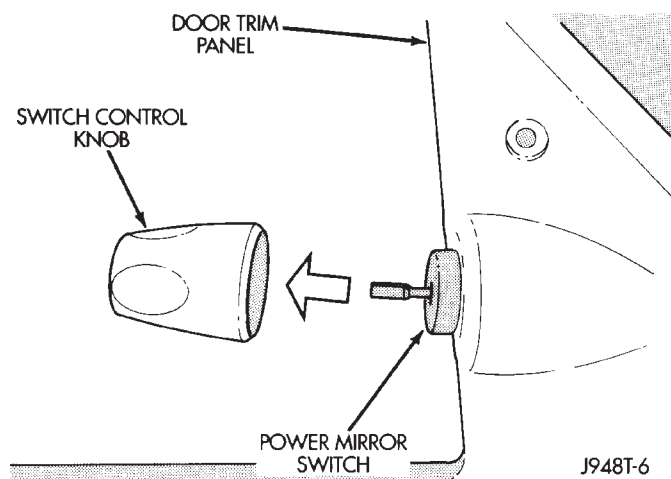

Fig. 3 Power Mirror Switch Control Knob Remove/Install - Typical
(1) Disconnect and isolate the battery negative cable.
(2) Pull the power mirror switch control knob rearward to remove it from the switch stem (Fig. 3).